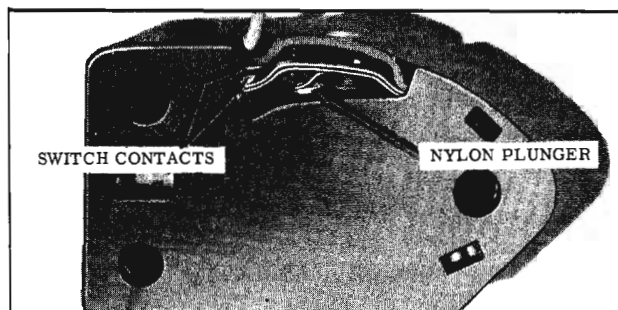

Fig. 16-180 Striker
**IMPORTANT:** Tail gate must be fully engaged in strikers to operate electric rear window. The nylon plunger located in the L.H. striker must be depressed by the tail gate lock case and this can only be accomplished when the tail gate is fully closed in the striker. If window does not operate, open gate, depress and hold nylon plunger (Fig. 16-180) and operate switches. If window operates while holding plunger fully compressed, this indicates the striker switch and tail gate lock case are not meeting properly. Adjust striker so that component parts mate. If window still does not operate, check wire connections for possible short or open circuit.